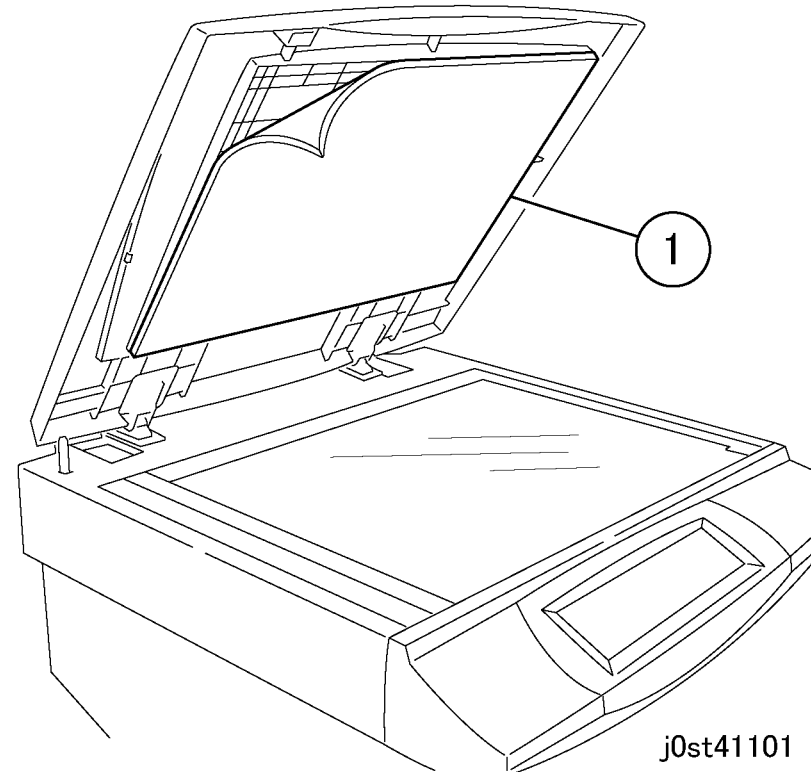

Figure 1 Removing the Platen Cushion (j0st41101)
1. Remove the Platen Cushion. (Figure 1)